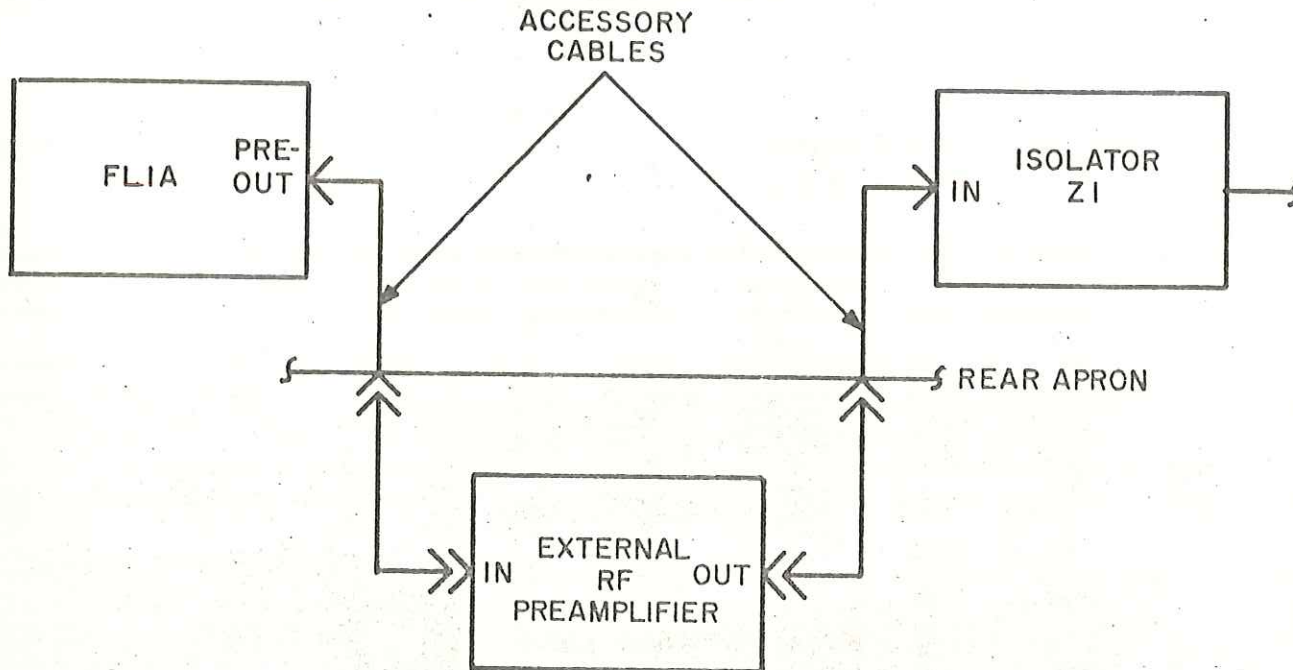

Figure 1. External RF Preamplifier Connections
4. Complete the installation as shown in Figure 1.